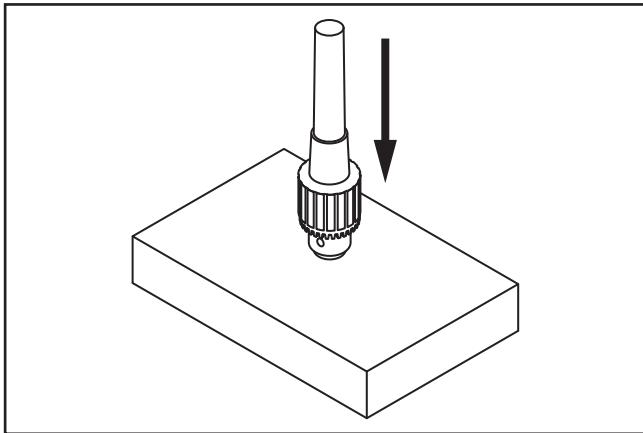

Figure 8. Tapping drill chuck/arbor on block of wood.
4. Hold assembly by the arbor and tap chuck onto a block of wood with medium force, as illustrated in **Figure 8**.